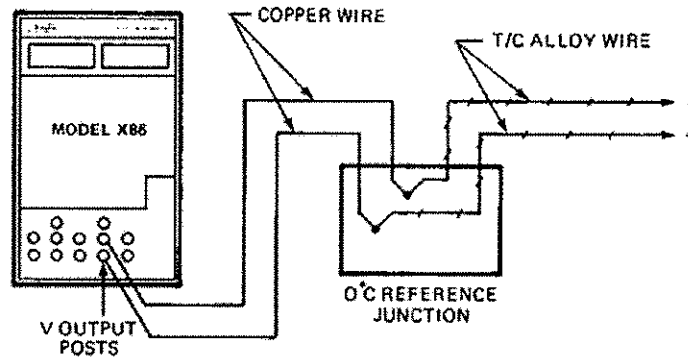

Figure 3-4: Thermocouple Simulation Using External Reference Junction
3.3.1 External Reference Junction: If an external reference junction is to be used, connect the Model X86 and the reference junction as shown in Figure 3-4.